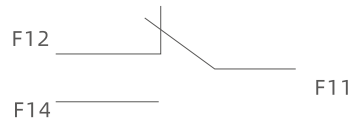
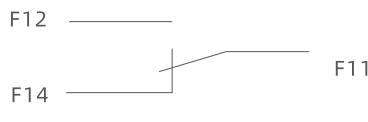

Fig. 4
Fig. 5
- See Fig. 4 and Fig. 5 for the wiring diagram of auxiliary contact FC.